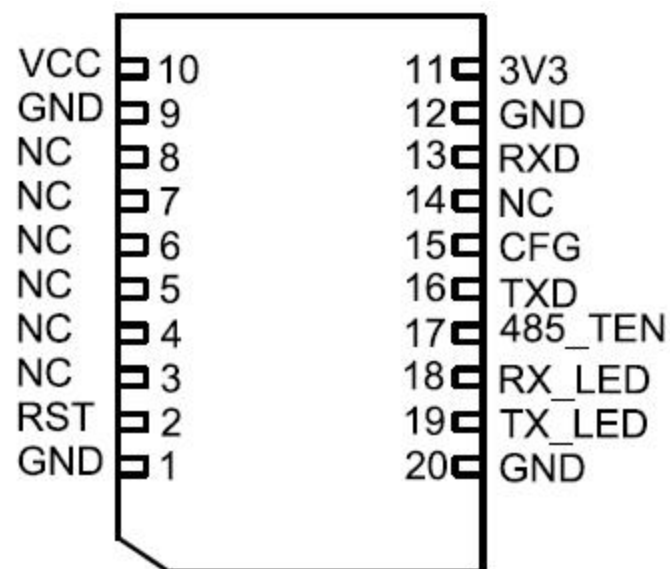

Figure 3-2 Pin Distribution of GT1001
- (1) The physical object of GT1001 is shown in Figure 3-1, and the pin distribution is shown in Figure 3-2.